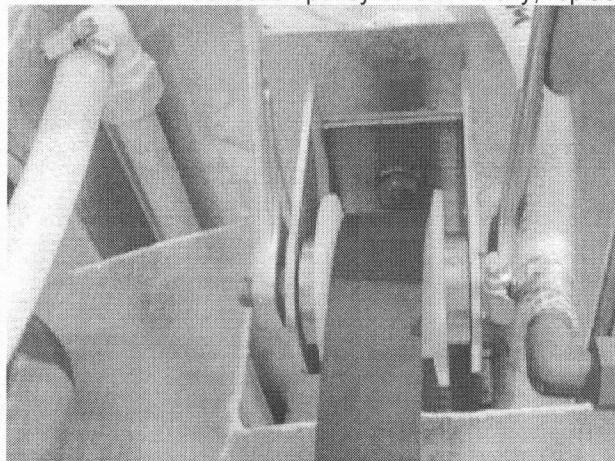

Fig. 083
3. Loosen deflection pulley screw. Finally, replace roller (Fig. 083/084).